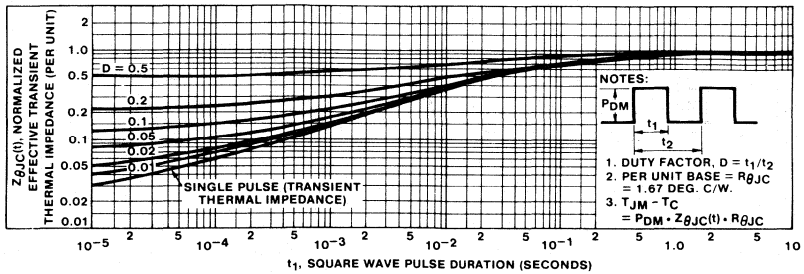

Fig. 5 - Maximum effective transient thermal impedance, junction-to-case vs. pulse duration.
2. Repetitive Rating: Pulse width limited by maximum junction temperature, See Transient Thermal Impedance Curve (Figure 5).
- ① Pulse Test: Pulse width $\leq 300\mu\text{s}$, Duty Cycle $\leq 2\%$.
- ② Repetitive Rating: Pulse width limited by max. junction temperature, See Transient Thermal impedance Curve (Fig. 5).